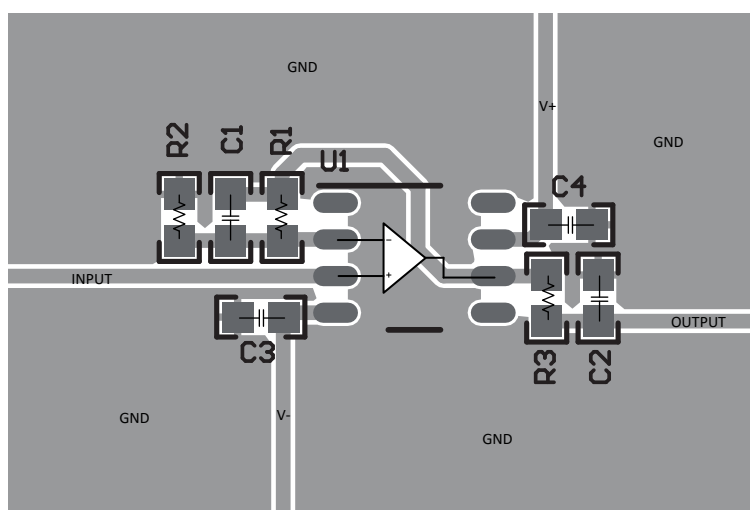

Figure 33. Operational Amplifier Board Layout for Noninverting Configuration
- Place the external components as close to the device as possible. As shown in Figure 33, keeping R_F and R_G close to the inverting input minimizes parasitic capacitance.